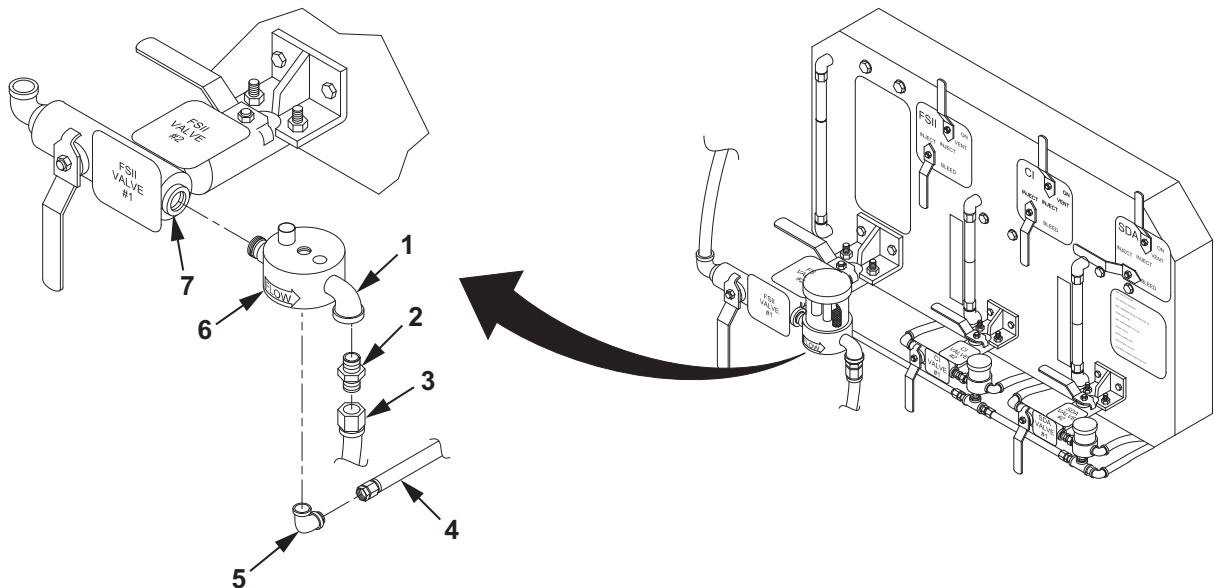

Figure 1. FSII HI Volume Sight Flow Indicator Maintenance.
1. Apply teflon tape to threads of fitting on side of HI volume sight flow indicator (Figure 1, Item 6).
2. Apply teflon tape to threads of 90° elbow (Figure 1, Item 5) at bottom of HI volume sight flow indicator (Figure 1, Item 6).
3. Install HI volume sight flow indicator (Figure 1, Item 6) on valve (Figure 1, Item 7).
4. Connect 90° elbow (Figure 1, Item 5) to bottom of HI volume sight flow indicator (Figure 1, Item 6).
5. Connect tube (Figure 1, Item 4) to 90° elbow (Figure 1, Item 5) at bottom of HI volume sight flow indicator (Figure 1, Item 6). Tighten tube (Figure 1, Item 4).
6. Apply teflon tape to threads of reducer (Figure 1, Item 2) at bottom of HI volume sight flow indicator (Figure 1, Item 6).
7. Install reducer (Figure 1, Item 2) on elbow assembly (Figure 1, Item 1).
8. Connect hose assembly (Figure 1, Item 3) to reducer (Figure 1, Item 2) on elbow assembly (Figure 1, Item 1).